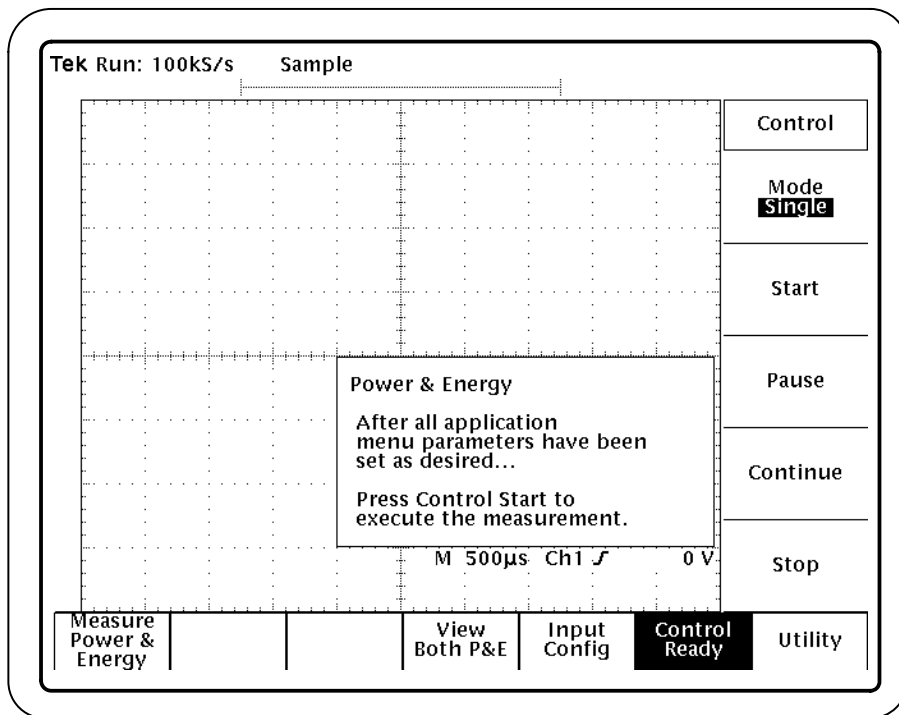

Figure 8: The Control menu
4. Press Control (main). Figure 8 shows the Control menu.